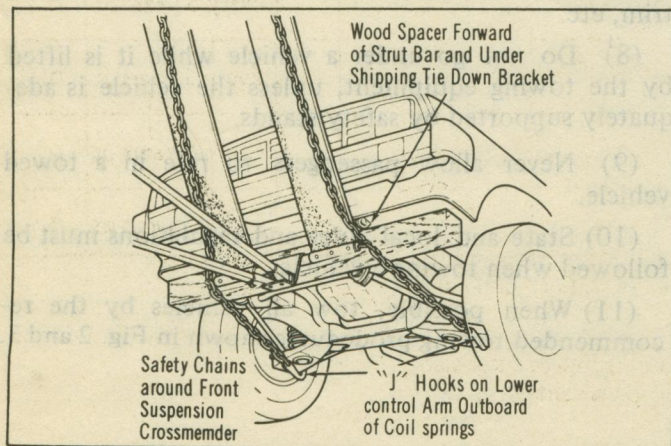

Fig. 2 Front Pickup Method
- (1) Be sure rear of vehicle does not hit or interfere with towing sling. Padding (heavy cloth or carpeting) should be placed between the bumper guards and towing sling.
- (2) When placing the tow hooks on the rear axle, position them so as not to damage brake lines.
- (3) Do not allow towing equipment to bear on the fuel tank.
- (4) Do not tow vehicles by hooking onto the rear spring shackles, stabilizer, strut, shock absorbers, or shock absorber bracket. It is important that the recommended pickup method should be used whenever possible.
- (5) Do not lift or tow any vehicle by attaching to or wrapping around bumper hydraulic energy absorber units.
- (6) Always use a safety chain system completely independent of the primary lifting and towing attachment.
- (7) Prior to moving the vehicle, secure any loose or protruding parts, such as hoods, doors, fenders, trim, etc.
- (8) Do not go under a vehicle while it is lifted by the towing equipment, unless the vehicle is adequately supported by safety stands.
- (9) Never allow passengers to ride in a towed vehicle.
- (10) State and local rules and regulations must be followed when towing a vehicle.
- (11) When possible, tow all vehicles by the recommended towing procedures shown in Fig. 2 and 3.